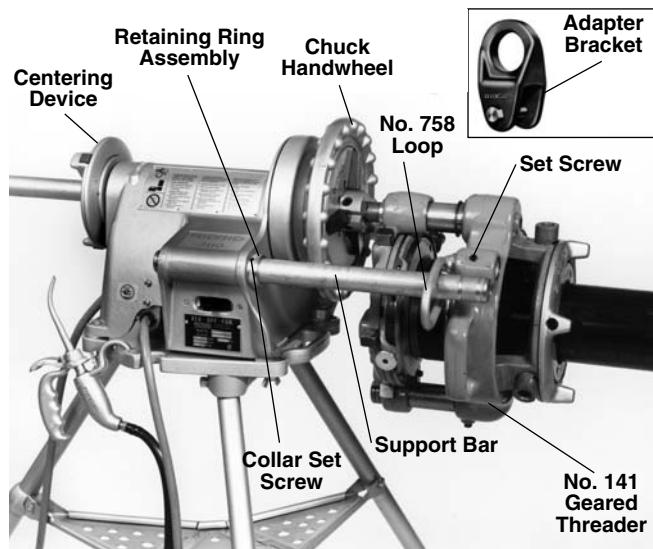

Figure 19 – No. 141 Geared Threader Close-Coupled to Power Drive
4. 141 Geared Threaders (*Figure 19*) – Pull out support bar on switch side and secure retaining ring against Power Drive body with set screws.
5. 141 Geared Threaders (*Figure 19*) – Slip No. 758 Loop over support bar and secure to gear case loop with set screw.
NOTE! Use No. E-3675 Adapter Bracket (*Figure 19*) in place of No. 758 Loop on all 4P Threaders without loop hole on gear case.